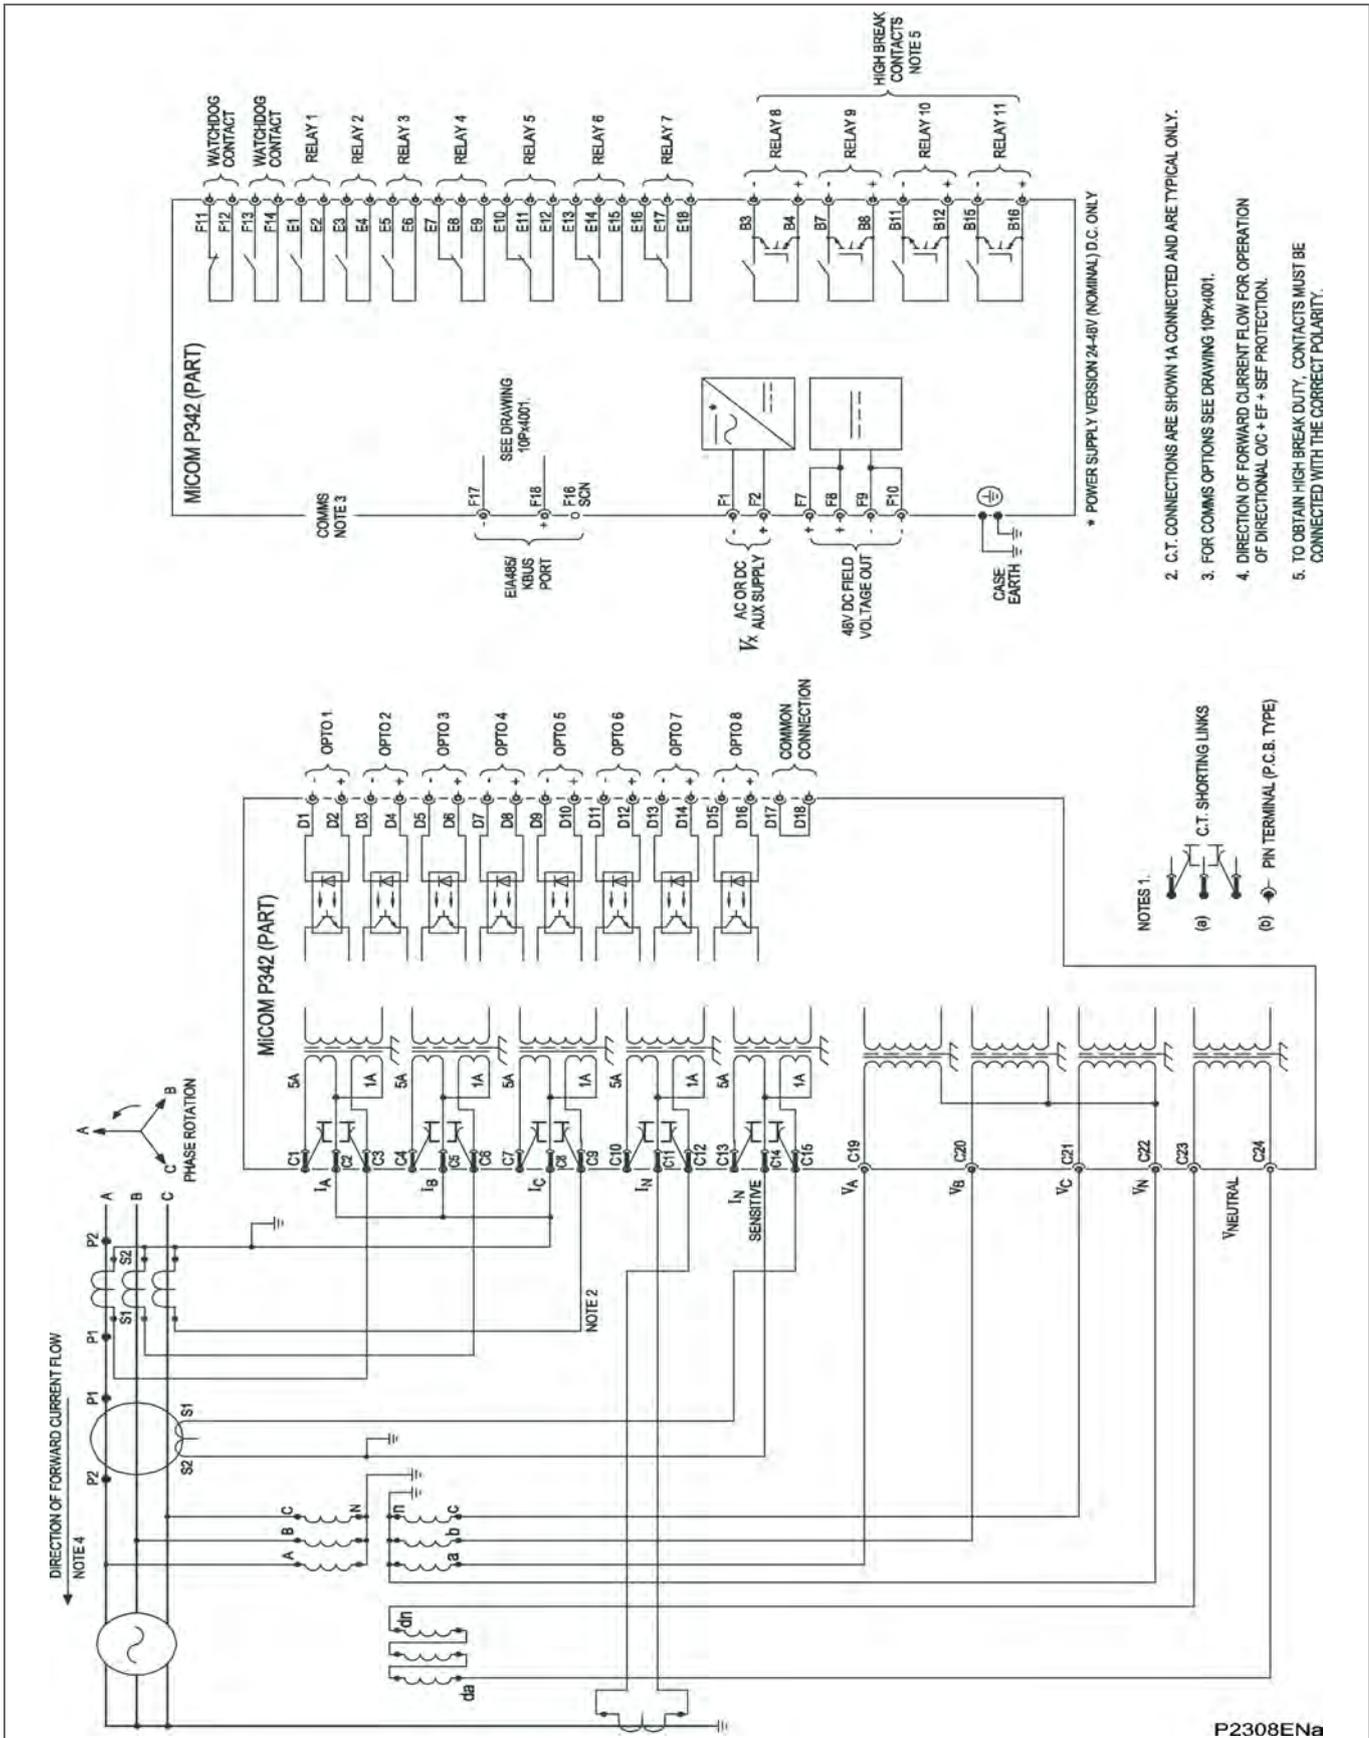

Figure 47 - P342 (40TE) for small generator (8 I/P & 11O/P (4 HB))
- Figure 47 - P342 (40TE) for small generator (8 I/P & 11O/P (4 HB))